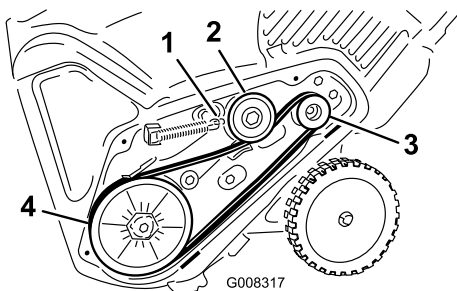

**Figure 37**
1. Remove the drive belt cover by removing the 3 bolts as shown in Figure 37.
2. Unhook the brake spring from the idler arm to release the belt tension (Figure 37).
3. Remove the screw and curved washer that holds the rotor pulley (Figure 37).
4. Remove the rotor pulley and the drive belt (Figure 37).
**Note:** Route the new drive belt first around the engine pulley, then the idler pulley, and finally around the loose rotor pulley positioned just above the rotor shaft (Figure 37).
6. Install the rotor pulley onto the rotor shaft (Figure 37).
7. Install the curved washer and the rotor pulley bolt and tighten them securely (Figure 37).